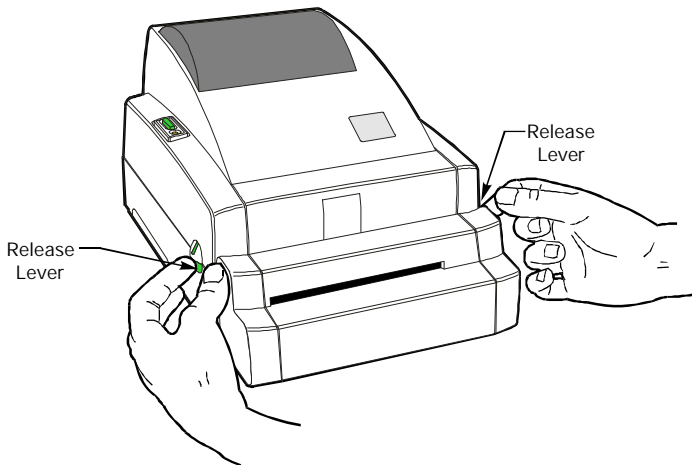

Figure 18
1. Unlatch the top cover by pressing the two green release levers (refer to Figure 18). Then, lift the top cover to expose the media compartment.